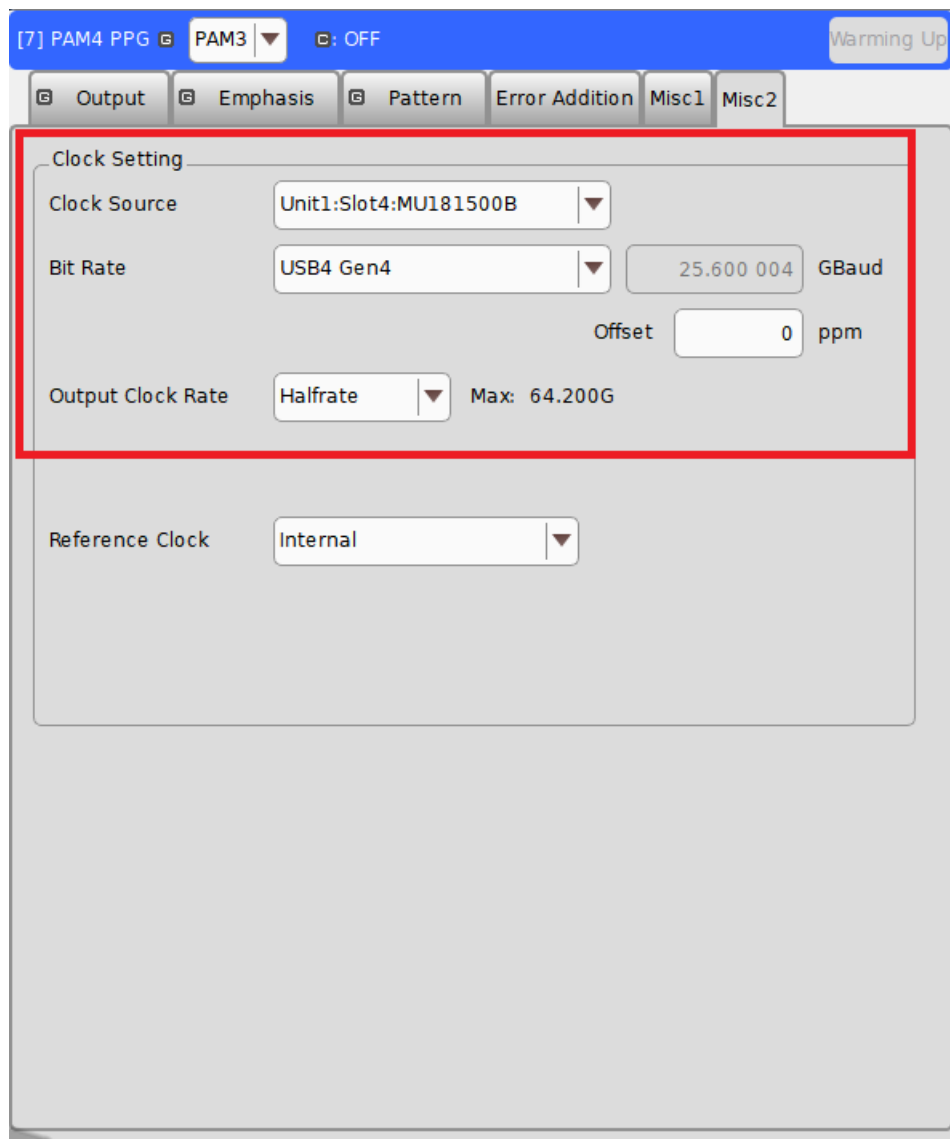

FIGURE 62. PPG Misc2 SETTINGS
- v. Set Clock Source to “Unit1:Slot4:MU181500B”. See Figure 62.
- vi. Set Bit Rate to 25.6 Gbit/s. See Figure 62.
- viii. Set Output Clock Rate to “Halfrate”. See Figure 62.